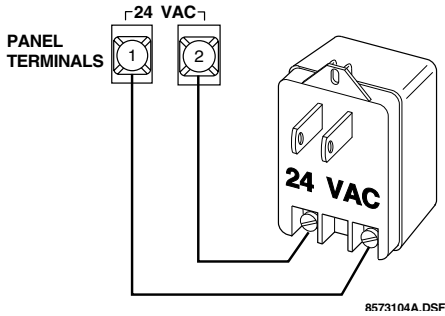

FIGURE 2-25. Connecting the Transformer to the Panel Terminals.
3. Connect the power transformer to the panel as shown in Figure 2-25.